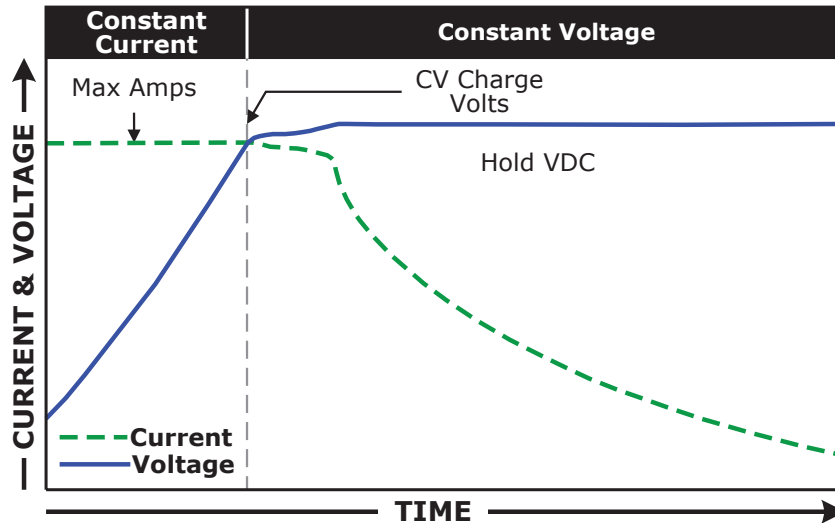

Figure 3-11, Hold VDC Charge Stages
- * **Hold VDC** – This setting holds the battery voltage at the *Chg Volts* setting. This is for a system that requires a constant charge voltage to be present at all times (see Figure 3-11).